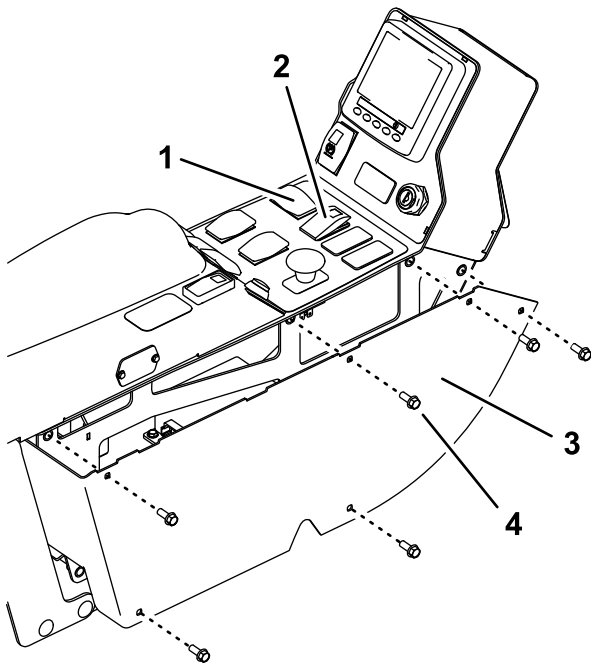

Figure 3
1. Remove the 6 bolts from the console and remove the panel (Figure 3).
2. Disconnect the connectors from the hazard switch and turn-signal switch (Figure 3).
7. Install the panel (Figure 3).